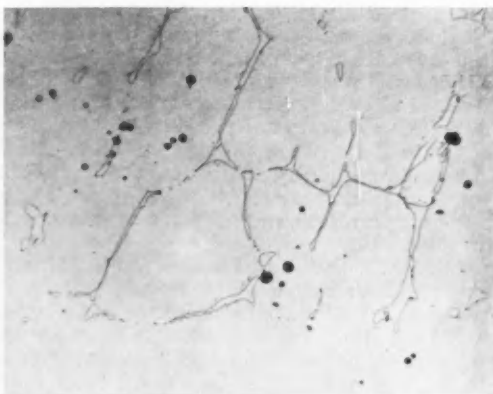

Fig. 2 — Dendritic delta ferrite in cast 17-4PH (reduced from microphotographs taken at 500 X). This was the most troublesome cause of low ductility.
1), and large amounts of dendritic-shaped ferrite (Fig. 2).